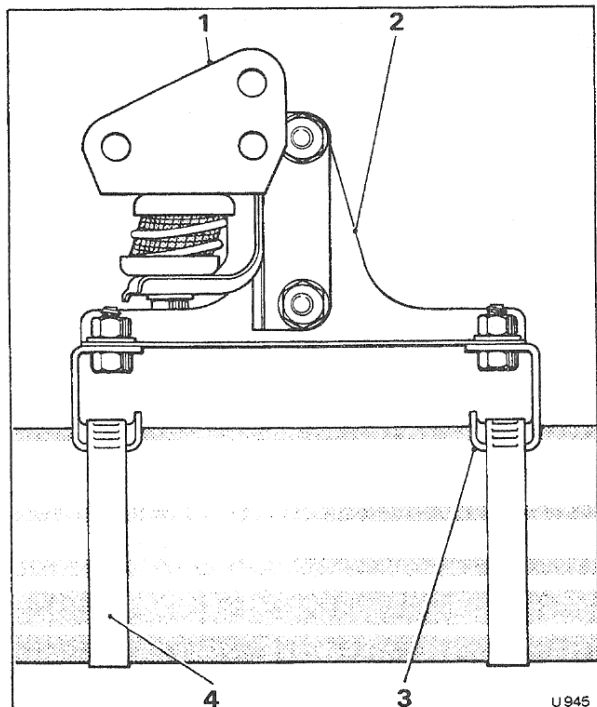

Fig. Q14 Rear silencer mounting bracket
**7. On Silver Shadow II, Silver Wraith II and Bentley T2 cars** assemble each rear silencer bracket as shown in Figure Q14. Fit the rear silencers and exhaust pipes.